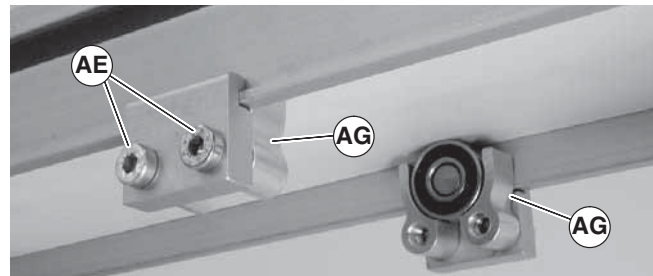

Figure 15
- Install roller assemblies (Figure 15, item AG) as shown. Tighten screws (AE) to 60 in-lb (7 Nm).